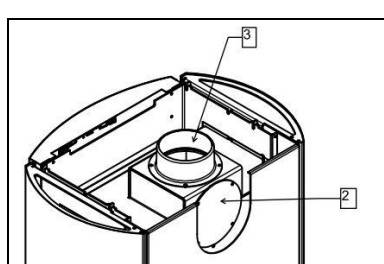

Figure 7
- Unscrew the bolts and nuts from the flue gas connection and the cover on the back of the chamber (Figure 7, items 2 and 3).